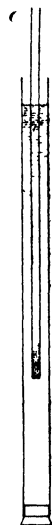
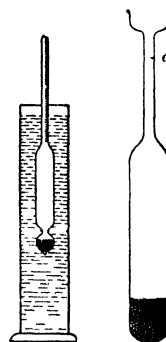

FIG 15
FIG 16      FIG 17
**I. To test Archimedes' principle for floating bodies** Place in a deep vessel of water (see Fig 9) a piece of thin-walled, cylindrical glass tubing about  $\frac{3}{4}$  in in diameter and 24 in long, loaded with shot at the lower end (Fig 15) (For the sake of convenience in II it is best to load the tube first in a vessel of gasoline until it sinks to within, say, 2 cm of the top and then to transfer it without change in the load to the vessel of water) Place a rubber band about the tube at the exact point to which it sinks in the water Remove the tube from the water, wipe it dry, and then weigh it with the contained shot Measure the diameter of the tube in four or five different places between the rubber band and the bottom, and measure the distance from the rubber band to the bottom From these two measurements compute the volume, and therefore the weight, of the water displaced by the floating body
Test your result by means of a commercial constant-weight hydrometer (Fig 16)
**Questions** a Can you see any reason why a constant-weight hydrometer made with a narrow stem (Fig 16) is a much more accurate instrument for determining the densities of liquids than a cylindrical constant-weight hydrometer like that shown in Fig 15?